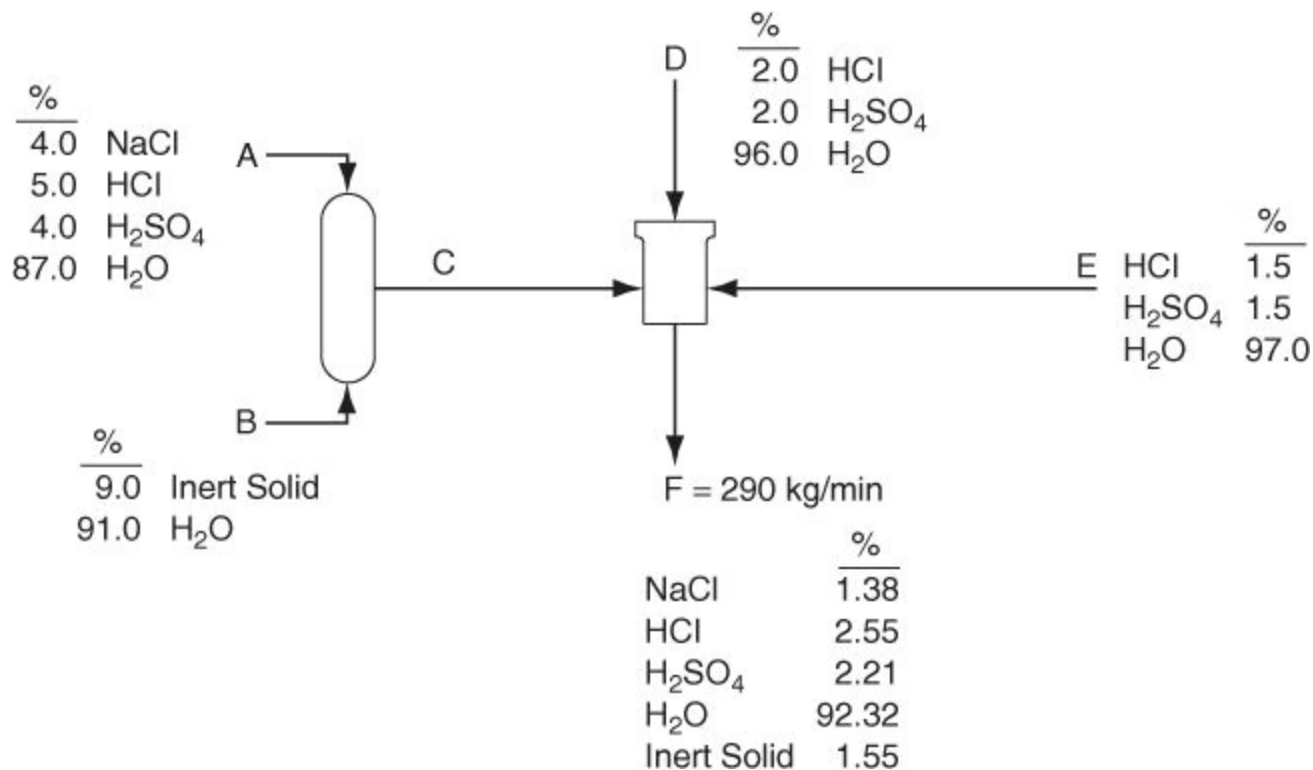

Figure P6.2.6
***6.2.6. Several streams are mixed as shown in Figure P6.2.6. Calculate the flows of each stream in kilograms per second.